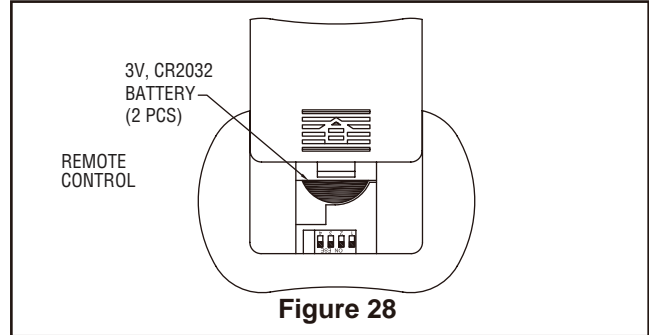

Figure 28
- 2. To make fan operational, install two 3-volt batteries in hand-held remote transmitter, (if not using for long periods of time, remove battery to prevent damage to transmitter). Store the remote away from excessive heat or humidity (Figure 28).